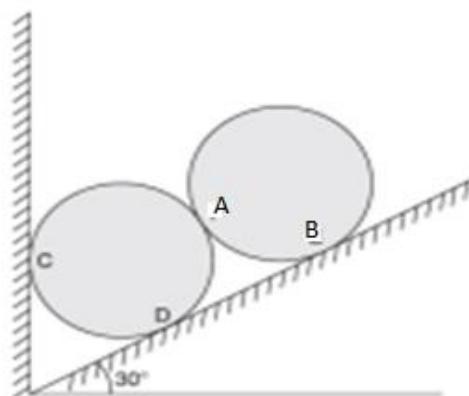

Fig 2
c) Two identical rollers each of weight 700 N are supported by an inclined plane and vertical wall as shown in Fig.2. Find the reaction exerted by the wall and the inclined plane at C, D. **10**